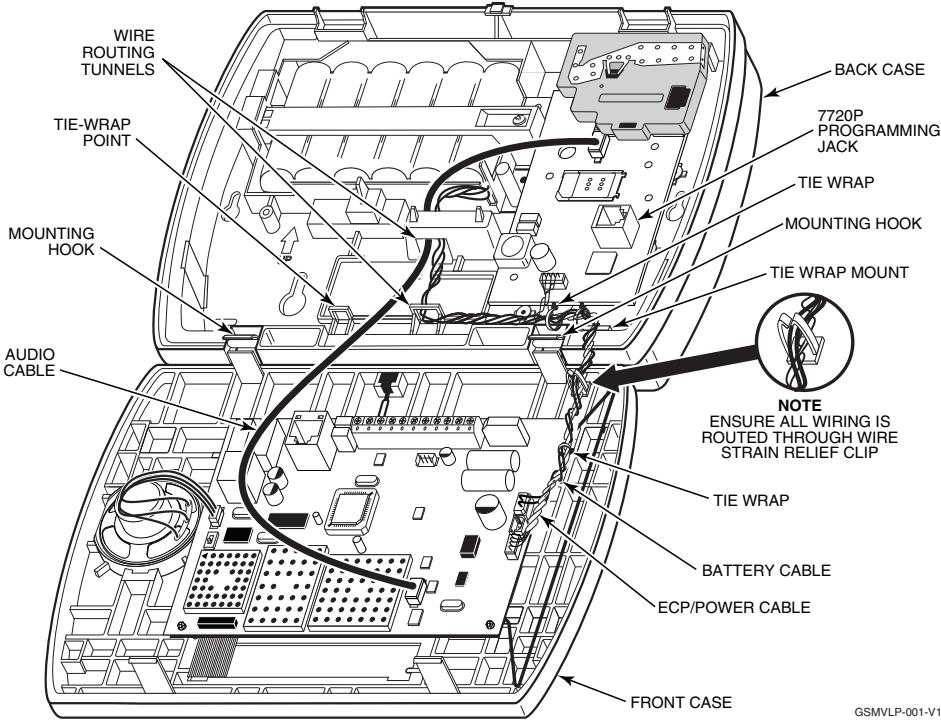

Figure 4 – GSMVLP Wiring Connections and Routing
- Connect the provided ECP/power cable between the GSMVLP module and the PC board and route the cable as shown in Figure 4. This cable provides DC power and ground for the module and ECP connections.
For best radio performance, the wires, ECP/power cable, battery and shielded audio cables must be routed as shown in Figure 4.
- Make the wiring connections and install the control in accordance with the appropriate Installation Instructions. Twist the ECP/power and battery cables and ensure that they are routed through the routing tunnels and/or the strain relief clip as shown in Figure 4.
- Secure the wiring with the provided tie wraps as shown in Figure 4 to ensure that the cables do not interfere with the antenna.
10. Connect the provided shielded audio cable between the GSMVLP module and the PC board and route the cable as shown in Figure 4.